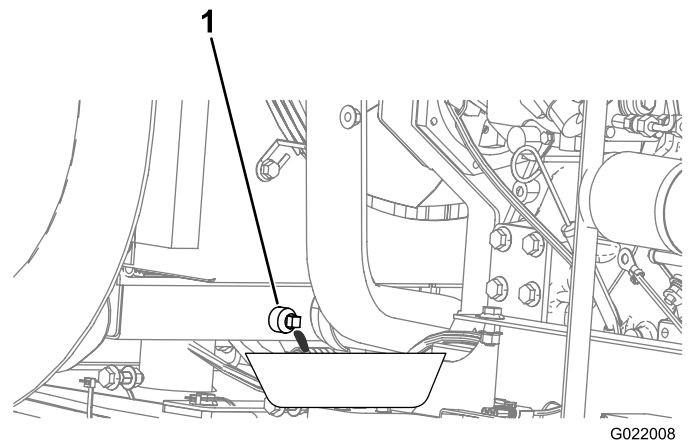

Figure 138
5. Place a drain pan under the drain plug (Figure 138).
8. Close the drain plug (Figure 138).
- C. Close the drain plug (Figure 138).
- H. Close the drain plug (Figure 138).